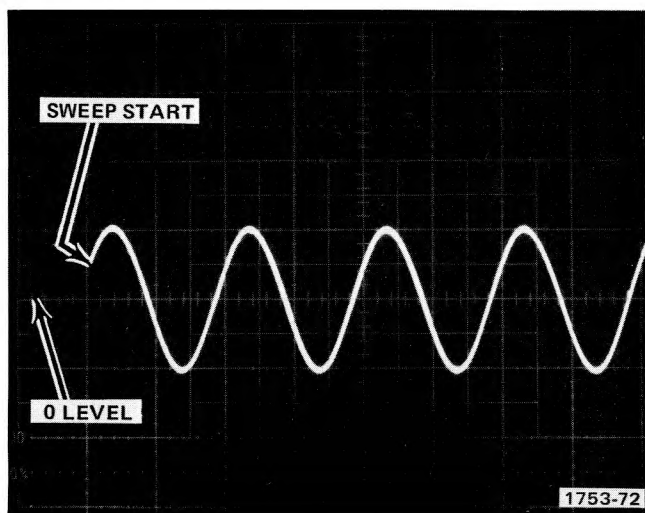

Fig. 5-3. TRIGGER LEVEL adjusted so sweep starts 0.5 div away from 0 level (graticule center) setting.
b. Set leveled sine-wave generator for 2 div 50 kHz display. Use horizontal POSITION to move start of sweep within viewing area. Adjust the A TRIGGER LEVEL control to move the start of the sweep vertically about 0.5 div from its position when the A TRIGGER LEVEL was set to 0 (see Fig. 5-3).